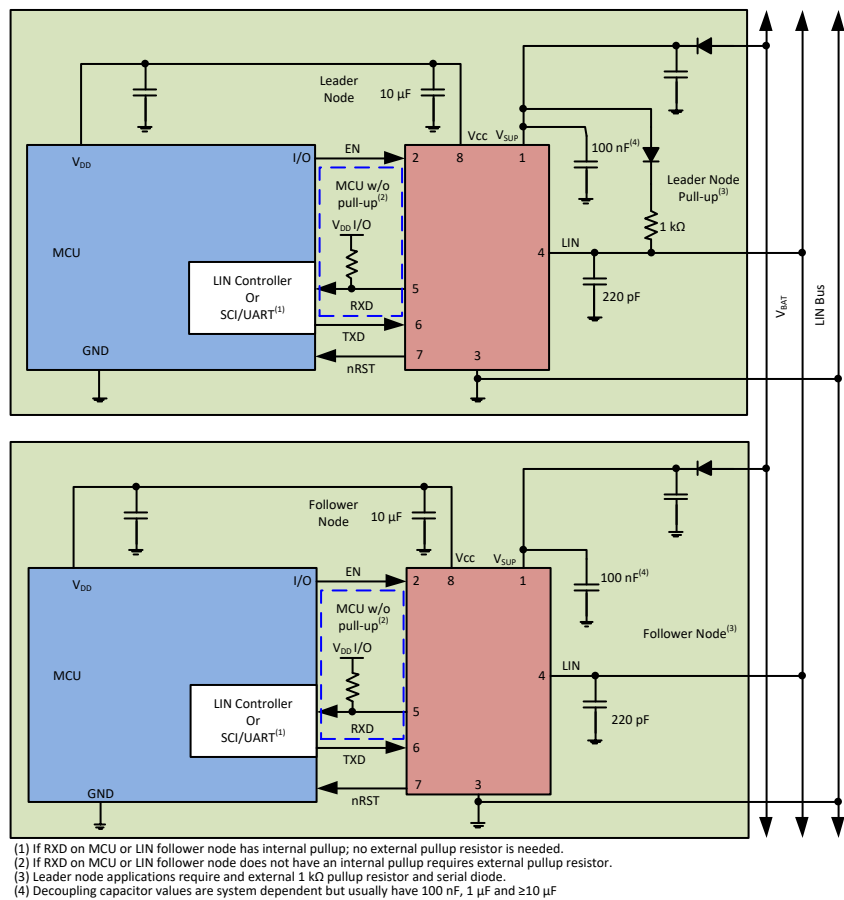

图 10-1. Typical LIN Bus
The device comes with an integrated 45 kΩ pull-up resistor and series diode for follower node applications. For leader node applications, an external 1 kΩ pull-up resistor with series blocking diode can be used. 图 10-1 shows the device being used in both leader and follower node applications.
- **Pin 2 (EN):** EN is an input pin that is used to place the device in a low power sleep mode. If this feature is not used, the pin should be pulled high to the regulated voltage supply of the microprocessor through a series resistor, values between 1 k Ω and 10 k Ω . Additionally, a series resistor may be placed on the pin to limit current on the digital lines in the event of an over-voltage fault.
- **Pin 4 (LIN):** This pin connects to the LIN bus. For follower node applications, a 220 pF capacitor to ground is implemented. For leader node applications, an additional series resistor and blocking diode should be placed between the LIN pin and the V_{SUP} pin. See 图 10-1